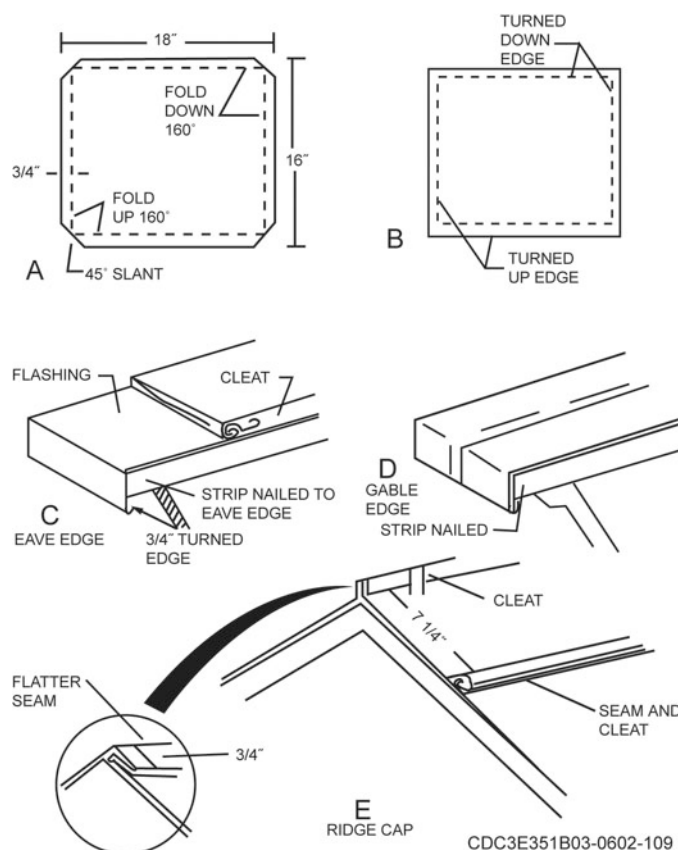

Figure 2-7. Grooved (flat) seams used with metal roofing.
Grooved seams, sometimes called flat seams, we normally use on low-slope roofs ( $\frac{1}{2}$  inches to 3 inches). When you are cutting and notching seams, make sure you get a good notch; otherwise, you may have a difficult time when you seal the joint with solder. Figure 2-7, A shows a good notch. It
looks like figure 2-7, B after you position the edges. Notice that two edges are turned up, and two are turned down. This lets you hook the “down” edges over the “up” edges.
In laying a flat seam, nail the eaves and gable strips as shown in figure 2-7, C and D. Install the flashing for the eaves with cleats and a continuous strip, as shown in figure 2-7, C.
*Do not* nail the flashing to the roof deck. Notice that a  $\frac{3}{4}$ -inch pocket is turned over the strip. After you install the eaves flashing, insert the flat sheet into the pockets of the flashing with two edges turned down. Figure 2-7, D shows the gable edge. Lap the sheet and grooved (flat) seam over the gable and turn a  $\frac{3}{4}$ -inch pocket. Covered this way, the roof deck’s eaves and gables are sealed from moisture.
When you install the flat sheets on a roof, make sure the cleats are spaced correctly and the seams are well grooved. Flatten them with a mallet and set the grooves with a hand groover. Cover the whole roof to within  $7\frac{1}{4}$  inches of the ridges (fig. 2-7, E). You can cut and form the ridge cap in the shop with squaring shears and a cornice brake. Make the ridge cap in two halves; one half with the allowance for a standing seam pocket and the other half with a flange. Turn down the other edges of both halves for a groove (flat) seam.
Fasten the roof cap to the roof deck with cleats. Insert the grooved (flat) seam edges of the ridge cap halves into the pockets of the roofing sheets and flatten the seams. Using a double seamer, turn and flatten the pocket for the standing seam on the ridge. However, you must use a conventional seamer and a mallet to fold the seam completely over (fig. 2-7, E).